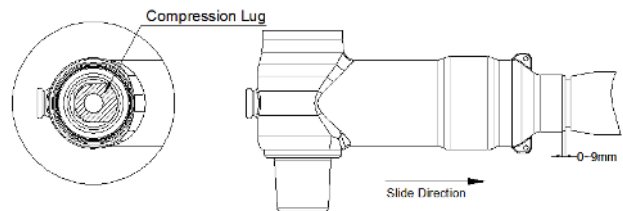

Fig.14
**Step 4.** Repeat Step 1 to Step 8, prepare cable and install bolted companion coupling (rear) T-body connector. (See Fig. 14)